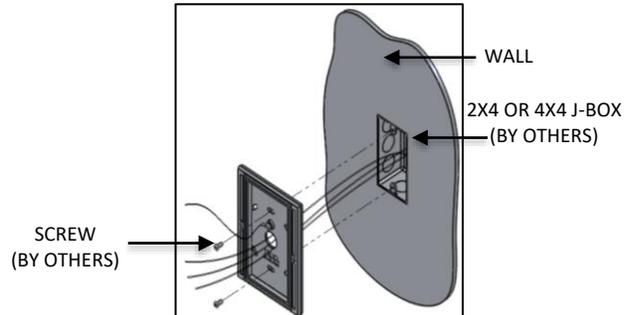

FIG. 6- MOUNTING PLATE ASSEMBLY TO J-BOX
3. Pull Black, White & Green supply wires through center hole of MOUNTING PLATE TO JUNCTION BOX (BY OTHER) as shown below in FIG. 6.